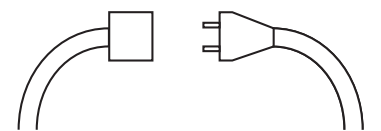

Fig. 1
- Connect the power cord plug to the extension cord (Fig. 1).
3. Disconnect the power cord plug from the extension cord (Fig. 1).